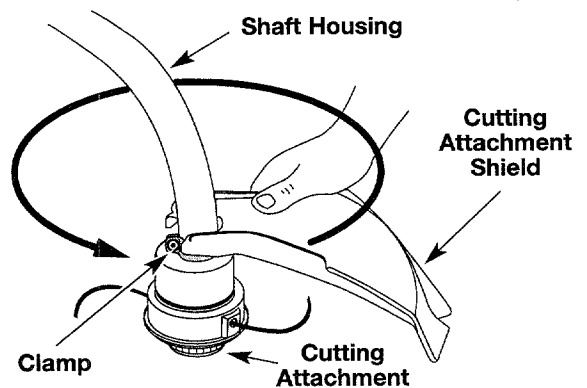

Figure 4
1. Place the cutting attachment shield onto the shaft housing above the clamp assembly. See Figure 4.
2. Push the cutting attachment shield down to the top of the cutting attachment assembly and then rotate the cutting attachment shield until the screw holes align and the guard fits into the recessed pocket. See Figure 4.